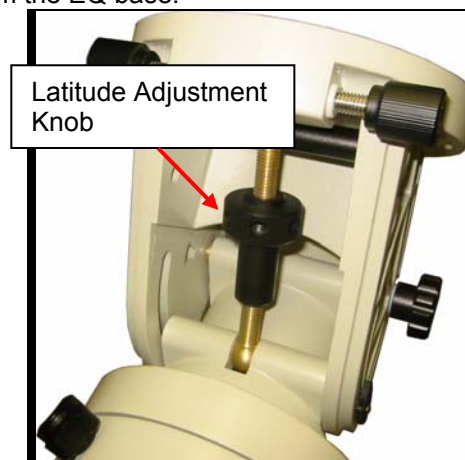

Figure 17
- Remove Latitude Adjustment Lever. Turn the Latitude Adjustment Knob until it separates the top and bottom latitude posts (**Figure 17**). Remove the other two Latitude Locking Screws to separate the mount head from the EQ base.